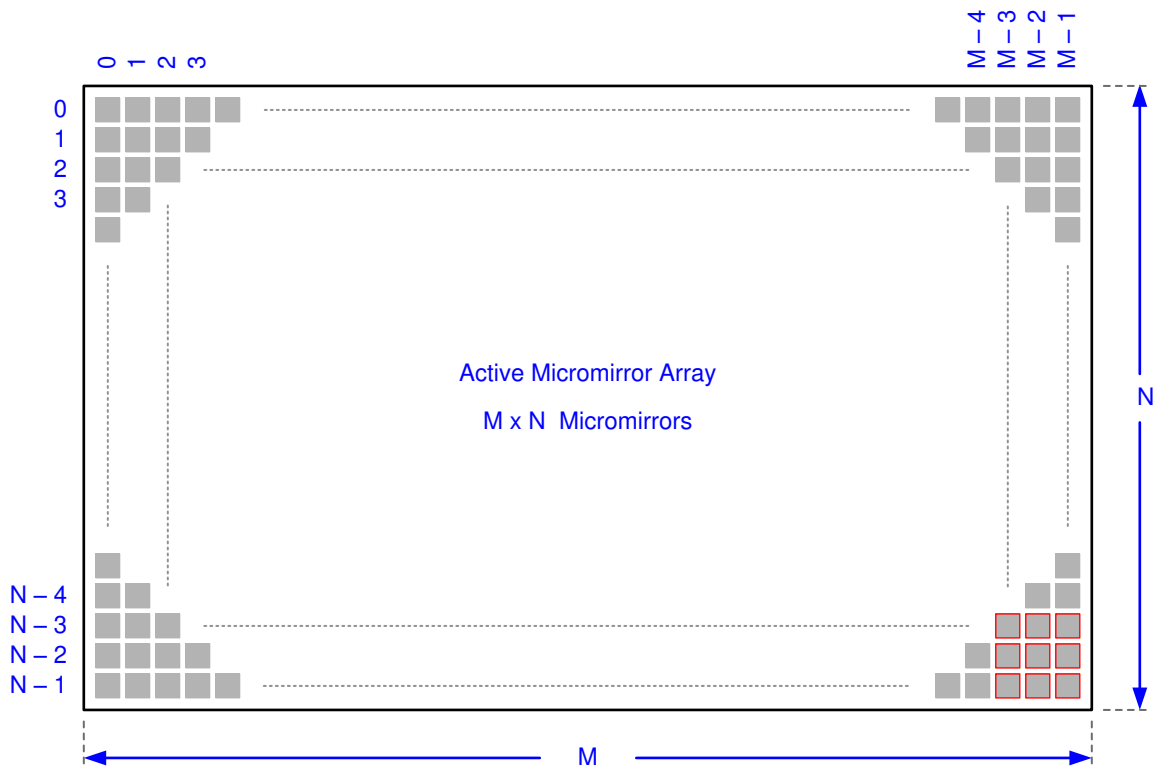

Figure 6-8. Micromirror Array Physical Characteristics
(1) See Figure 6-8.
(2) The structure and qualities of the border around the active array includes a band of partially functional micromirrors called the *Pond Of Mirrors* (POM). These micromirrors are structurally and/or electrically prevented from tilting toward the bright or “on” state but still require an electrical bias to tilt toward “off.”